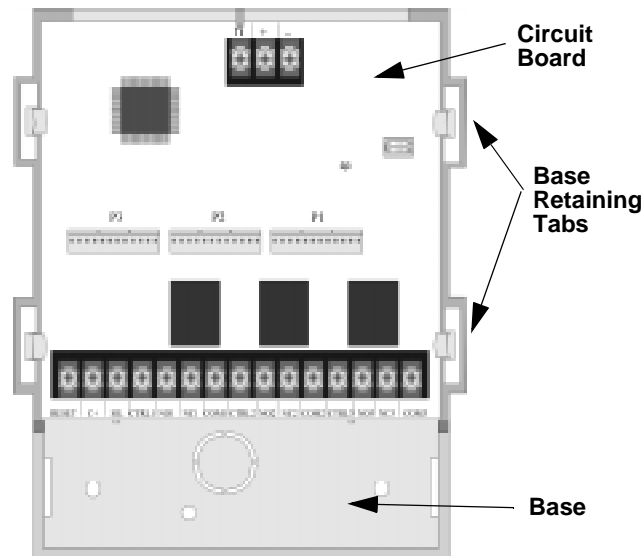

Figure 4-14 Circuit Board and Plastic Base Components
2. Remove the SK-2880 circuit board from the base by pushing outward on the base retaining tabs and lift the circuit board out. See Figure 4-14.